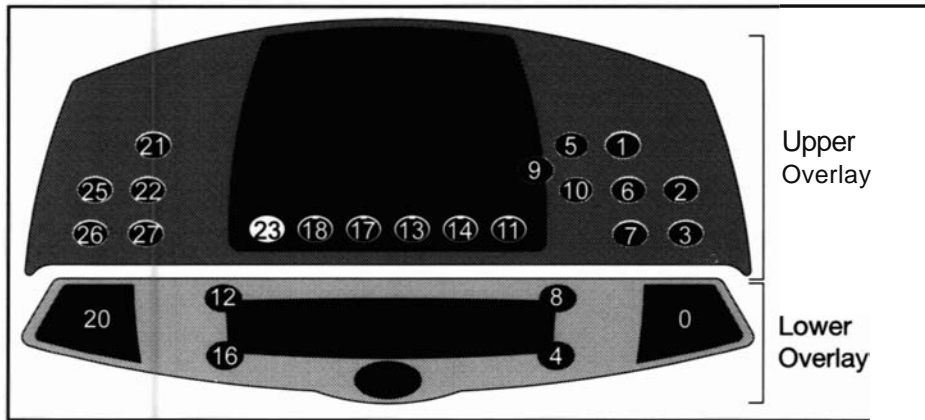

Figure 1
*NOTE: If Test Mode occurs without holding any keys, a key may be stuck closed. If "KEY" and a number is displayed you can determine which key is stuck closed by referring to the diagram below. You may need to replace the upper and/or lower display overlay depending on which key is stuck closed. See Figure 1.*